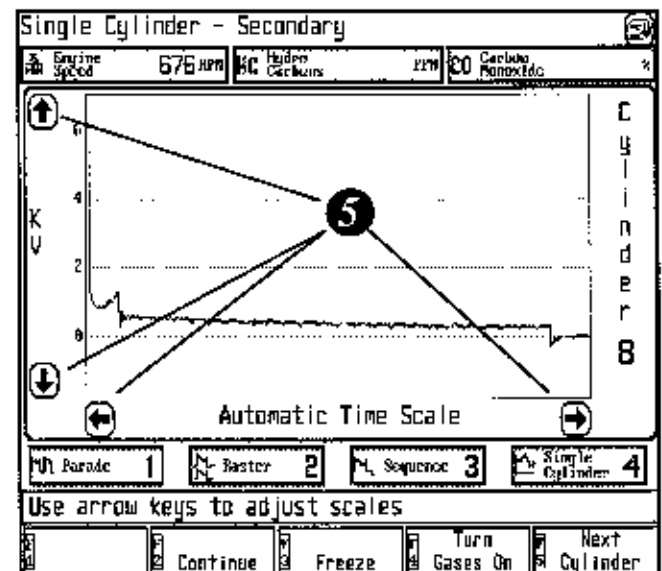

Figure 1-9
- 5 Arrows** (see Figure 1-9) - When arrow icons appear on the screen, press the appropriate arrow to expand or shrink the display scales. This function is available in ignition pattern screens.